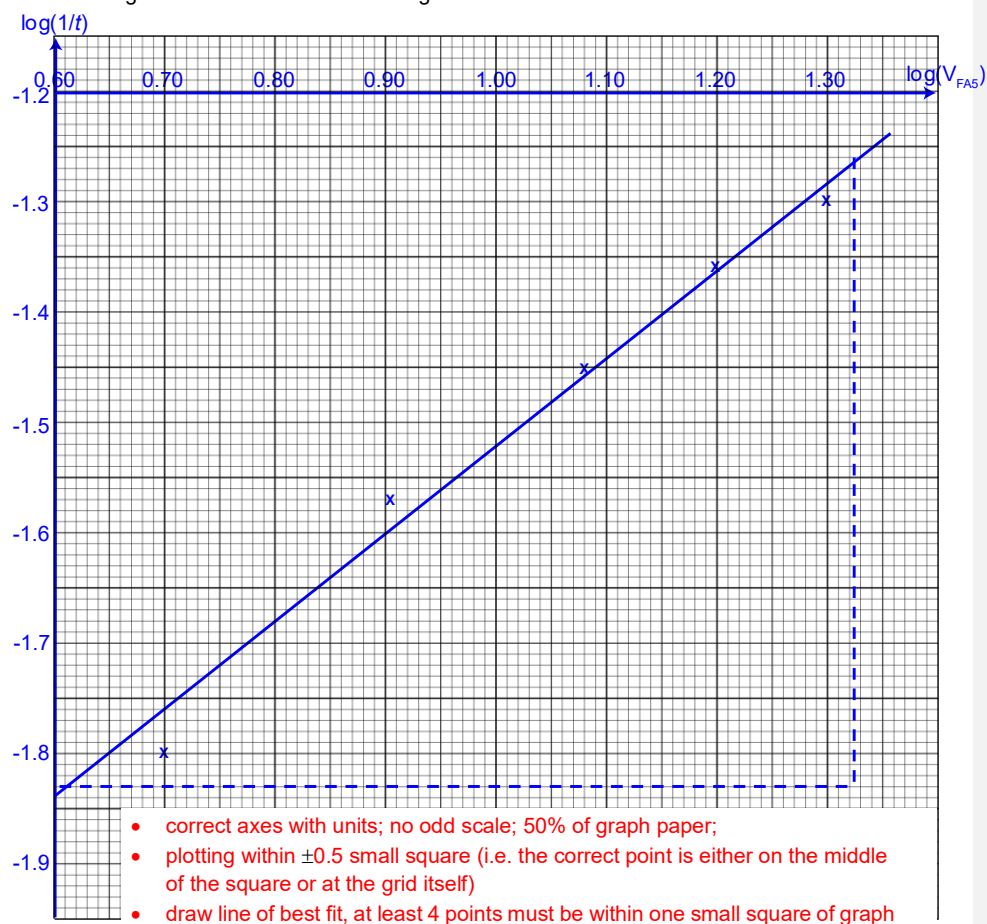

Figure 2.1
- (b) (i) Plot a graph of $\log(1/t)$ on the y-axis against $\log(V_{FA5})$ on the x-axis on the grid in Figure 2.1. Draw the best-fit straight line.